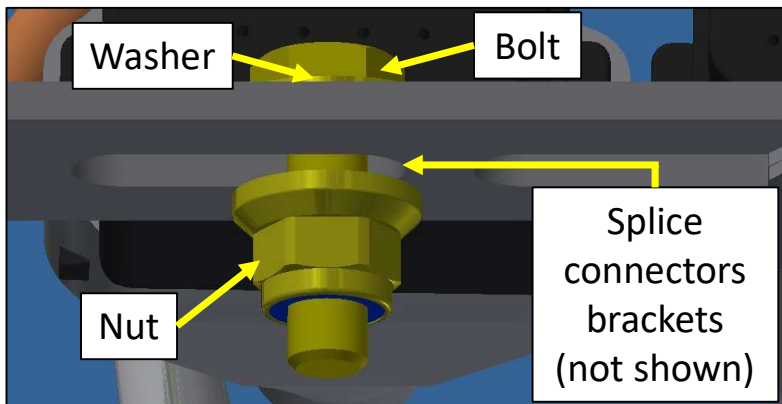

Figure 10 – Hardware Modification
13. Install the remaining splice connectors with the previously removed hardware inside the left slot of the main mounting bracket (first slot starting from motor side). See figures 10 & 11 for the parts stacking order. Splice connectors support brackets must be placed between the nut and the main mounting bracket.